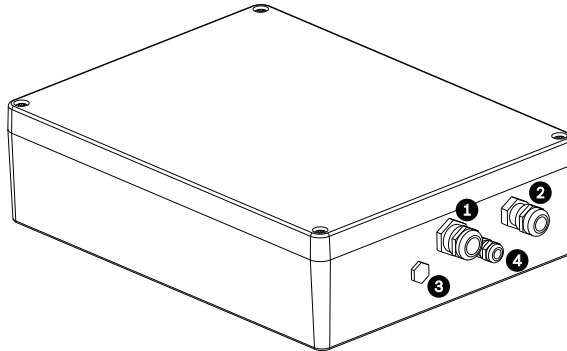

Figure 3.7 Enclosure of MIC IP PSU, with cable glands identified
- d. Feed your coax cable coming from Bilinx-compatible head-end control system through the top-left M12 cable gland (item 1, *Figure 3.7*).
19. *On non-IR power supplies for non-thermal cameras:* If connecting to additional add-on cards (for example, a card for 8-input alarms plus washer pump drive (MIC-ALM)), remove the blanking plug that covers the hole for the bottom-left M12 cable gland (item 3, *Figure 3.7*). Attach the supplied M12 gland. Make the appropriate connections to plug-in terminal CN2.
20. Through the top right hole (item 2, *Figure 3.7*) of the enclosure, install conduit necessary to protect standard UTP category 5 cable.